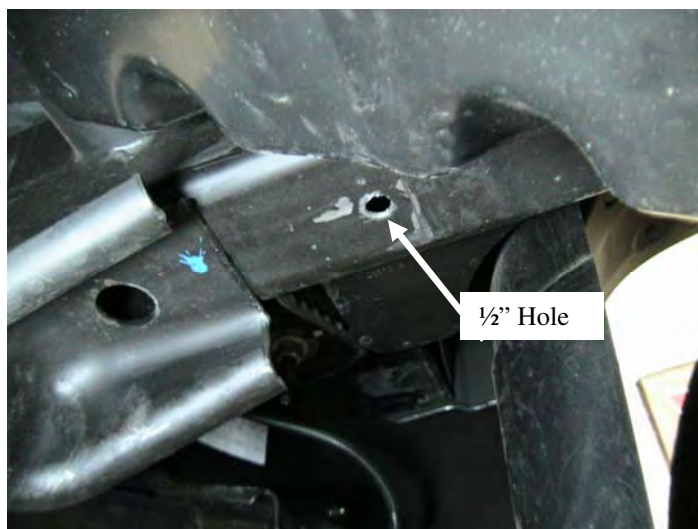

Figure 2 Drilled Hole
4. Drill a 1/2" hole through the bottom of each frame. Wear safety goggles and use caution when drilling the holes. See figure 2.
10. Install a 1/2" x 2" bolt in the middle hole of the frame bracket. Use the round black spacer, an oversized flat washer, and lock washer. **NOTE: The spacer must be placed in the large hole in the bottom of the frame so it rests against the frame extension inside the frame. The oversized washer will hold it in place once the bolt and lock washer are installed.** See figure 2.